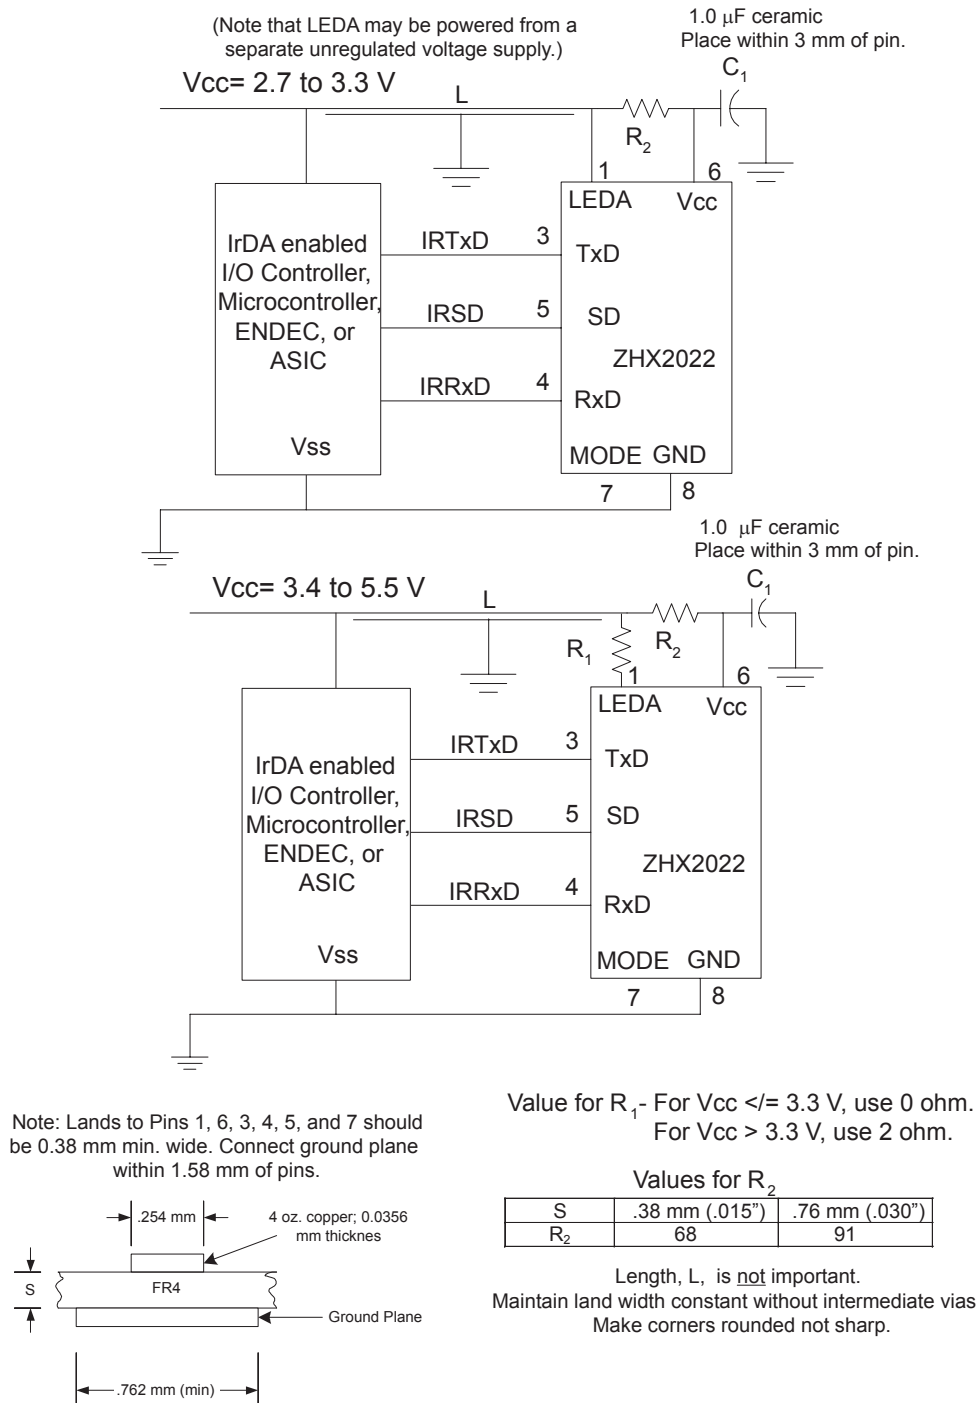

Figure 3. Application Block Diagram
ZiLOG transceivers integrate a sensitive receiver and a built-in power driver. The combination of both needs a careful circuit board layout. The use of thin, long, resistive, and inductive wiring should be avoided. The inputs (Txd, SD, Mode) and the output Rxd should be directly (DC) coupled to the I/O circuit. See Figure 3 and Table 7.